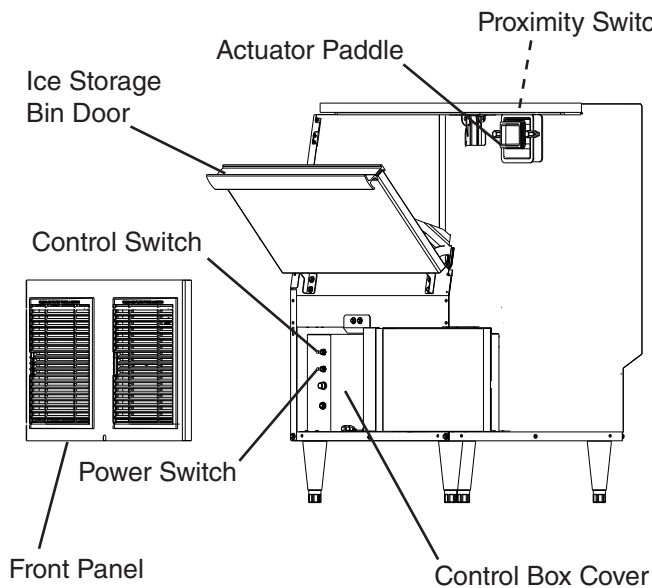

Fig. 2
- 2) Open the icemaker ice storage bin door so that you can access the actuator paddle located in the top of the bin. See Fig. 2.
- 10) Press the actuator paddle located in the top of the bin toward the front of the icemaker. See Fig. 2. The 90-sec. Comp shutdown timer starts. Once 90-sec. Comp shutdown timer terminates, Comp and FM de-energize and 60-sec. GM shutdown timer starts. Once 60-sec. GM shutdown timer terminates, GM de-energizes.